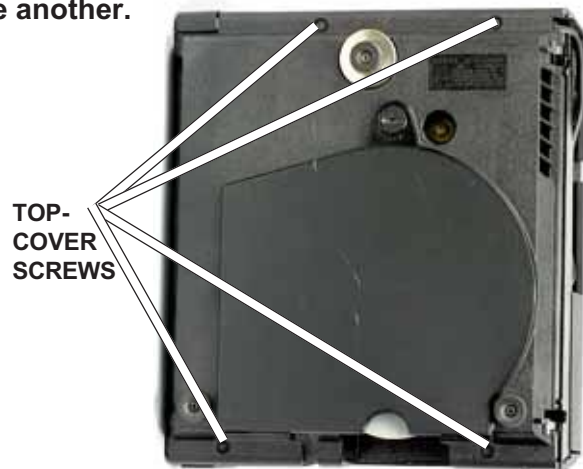

FIG. MD2 Bottom view.
3. From the bottom of the projector, remove the four top-cover screws, Fig. MD2. Use a thin-wall 1/4" nut driver. Note that the two long screws go closer to the back of the